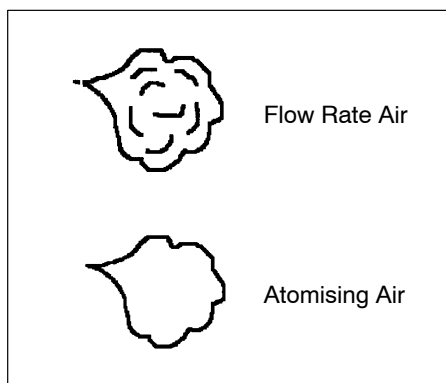

Fig. 3-1 Controller Flow and Atomising Symbols
- Connect the 6mm/8mm flow rate and atomising air tubing from the gun controller to the pump fittings. Figure 3-1 shows the symbols used to denote atomising and flow rate air.